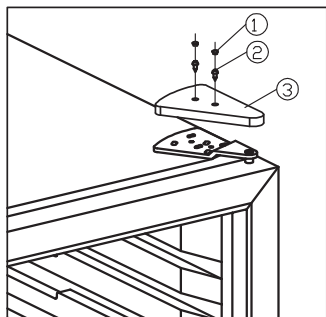

fig. 7.1
- Pull out the screw covers and unscrew the decorative cover. See fig.7.1